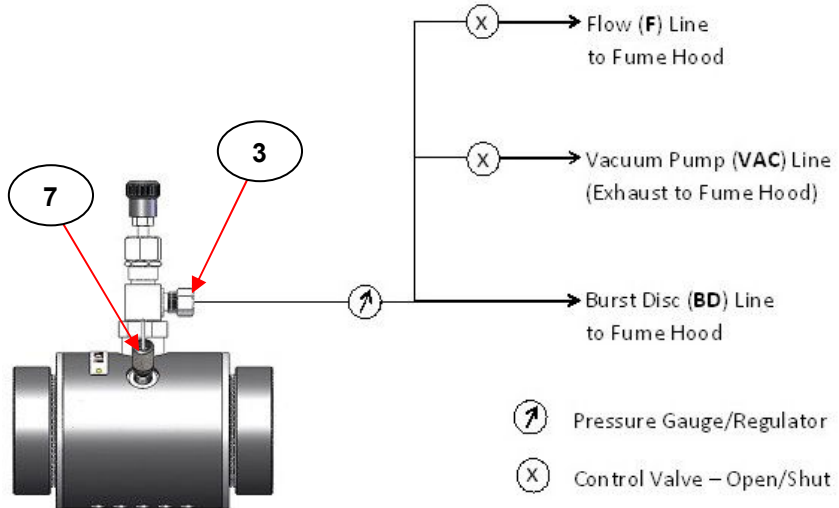

Fig 2. Schematic for Suggested Vacuum/ Gas Line Connectivity for Safe operation of the Storm 10H Heated Gas Cell
A suggested schematic for plumbing of a safety pressure device gas flow line, vacuum line and an additional “vent off” gas flow line to the vacuum valve assembly (3) connection is seen as **Fig 2**.
As shown in the schematic at **Fig 2**, a single tubing connection is made to the Storm™ 10H Heated Gas Cell vacuum valve assembly (3) via 1/8" O.D. tubing, but this tubing connection branches to three separate line connections. One line is open all the time (no shut off tap/valve) to a pressure safety burst disc device (**BD** line). A second line with an open/shut valve tap runs to a vacuum pump system (**VAC** line) and the third line with its own open/shut valve tap operates as an independent flow line (**F** line), if switched open. Both the safety device (**BD**) line and additional (**F**) line are routed to terminate in a safe containment area such as a fume hood. Any exhaust port(s) from a vacuum pumping system should also ideally be routed to vent off the gas to a safe area too, such as a fume hood environment.
the suggested schematic at **Fig 2**. (Opening of valve tap (3) and (VAC) line valve tap). When the cell chamber has been evacuated, close the valve tap (3) and open the **inlet** flow tube (12) valve to allow for a gas to fill the Gas Cell body (2) chamber for a **static mode of operation**. The Gas Cell can additionally be heated once a gas has been introduced and the gas vapour itself can be measured for its temperature via the fitted monitoring thermocouple (14).